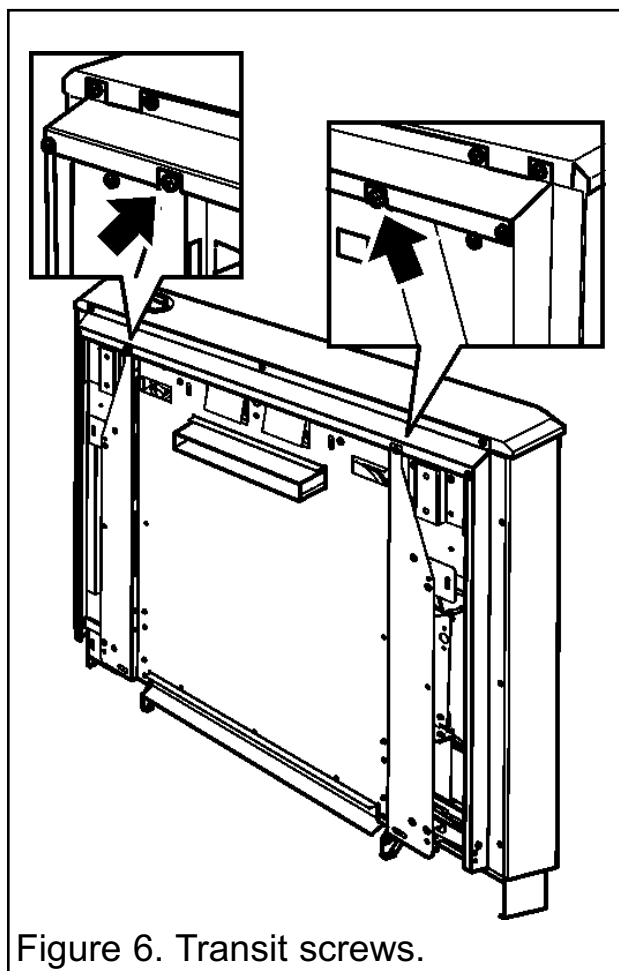

Figure 6. Transit screws.
2. Remove the two transit screws from near the top of the back panel wings (See figure 6).